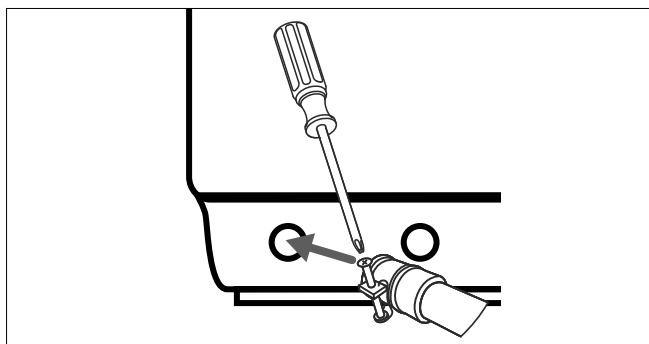

Fig. 7 – Water outlet connection
Insert the drain hose with the connection for the water outlet (26) to the back of the appliance and secure it using a clamp (see Fig. 7).